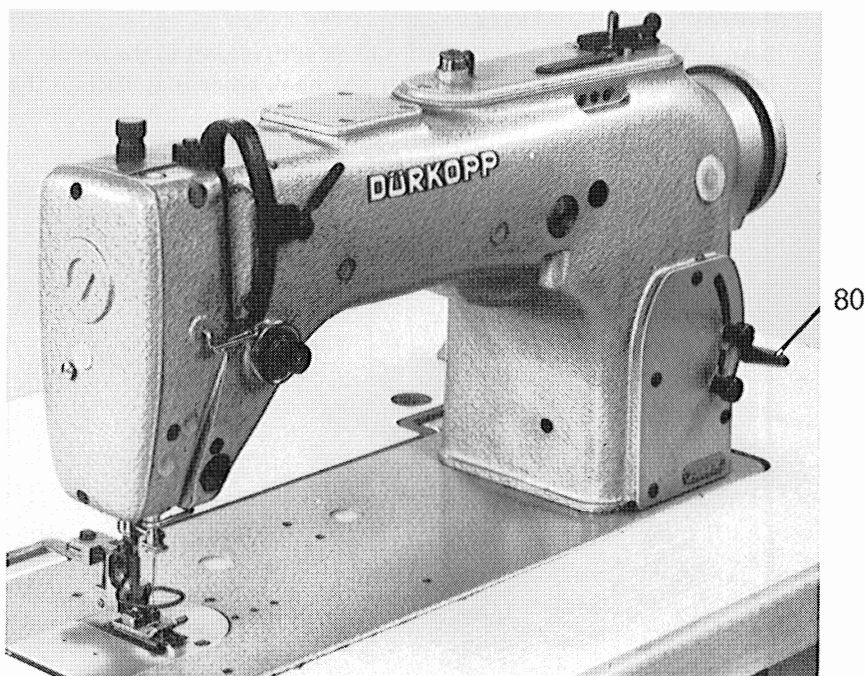

Fig. 46
2. Set the throw width regulating lever 80 (fig. 46) for the maximum throw width,